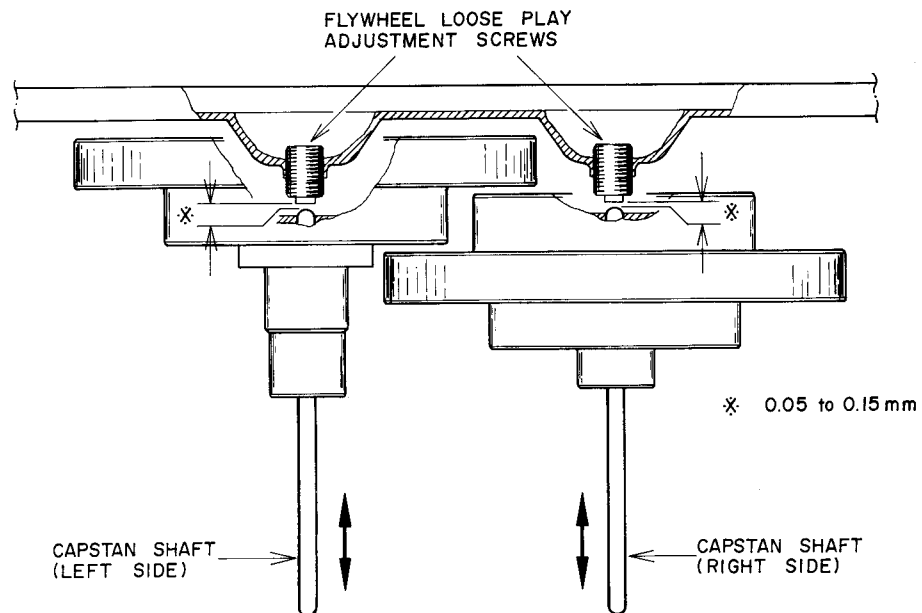

Fig. 17
1. FLYWHEEL LOOSE PLAY ADJUSTMENT (Refer to Fig. 17)